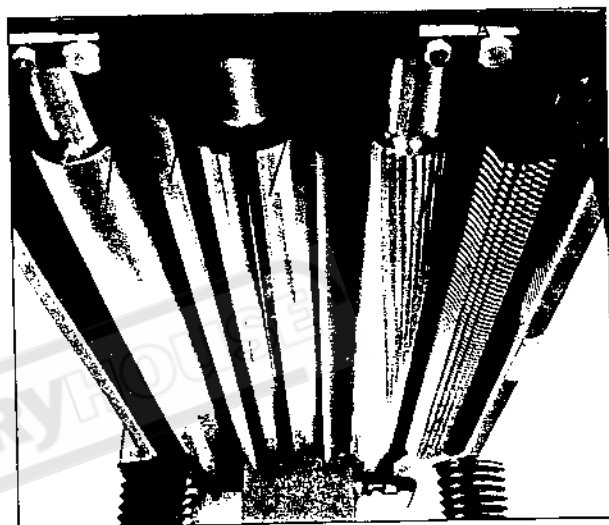

Fig. 27
The infeed roller (A) and outfeed roller (B) Fig. 27 are those parts of your planer that feed the stock while it is being planed. The infeed roller and the outfeed roller are under spring tension and this tension must be sufficient to feed the stock uniformly through the planer without slipping but should not be so tight that it causes damage to the board. The tension should be equal at both ends of each roller.